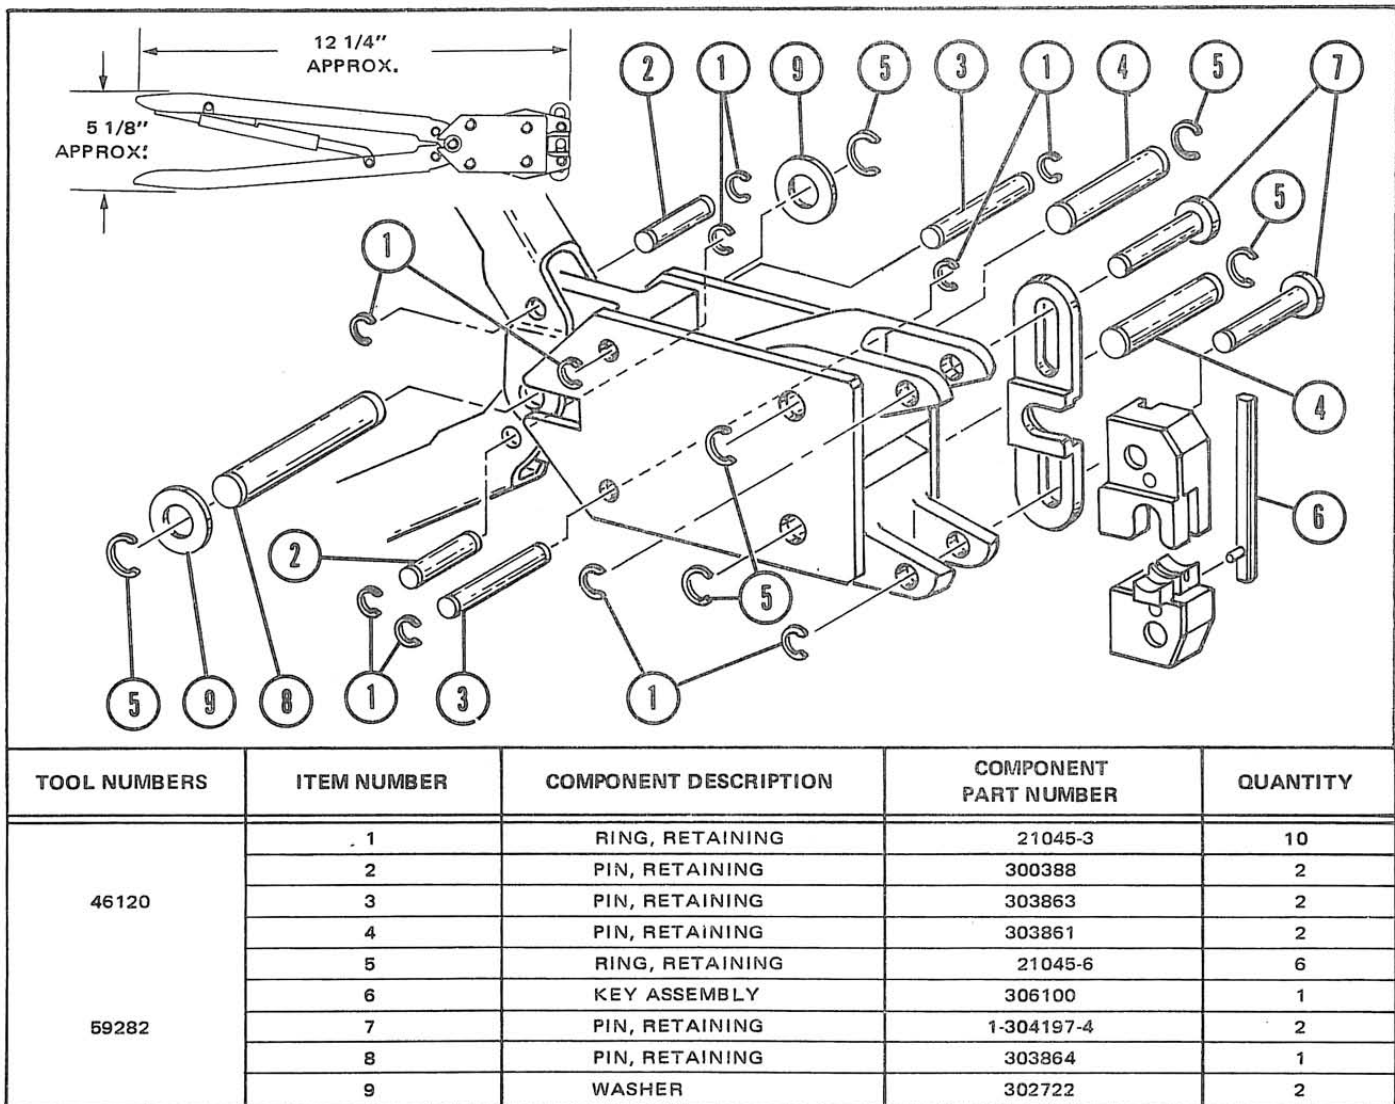

Figure 9
All AMP★ tools are inspected and calibrated before being shipped from the factory, however, since there is a possibility of tool damage in shipment, AMP recommends that new tools be inspected in accordance with Section 3 when received in your plant. Due to the precision design, *it is important that no parts of these tools be interchanged except those replacement parts listed in Figure 9.*
- (a) Visually inspect the tool for missing pins or retaining rings. If parts are missing or defective, refer to Figure 9 for customer replaceable parts.
It may be advantageous to stock certain replaceable parts to prevent loss of production time. Figure 9 lists the customer replaceable parts that can be purchased from AMP Incorporated. Parts other than those listed on Figure 9 should be replaced by AMP Incorporated to insure proper CERTI-CRIMP ratchet adjustments. For tool repair service or CERTI-CRIMP ratchet adjustment, the tools should be returned to AMP Incorporated, Harrisburg, Pa. 17105, or a wholly owned subsidiary of AMP Incorporated.